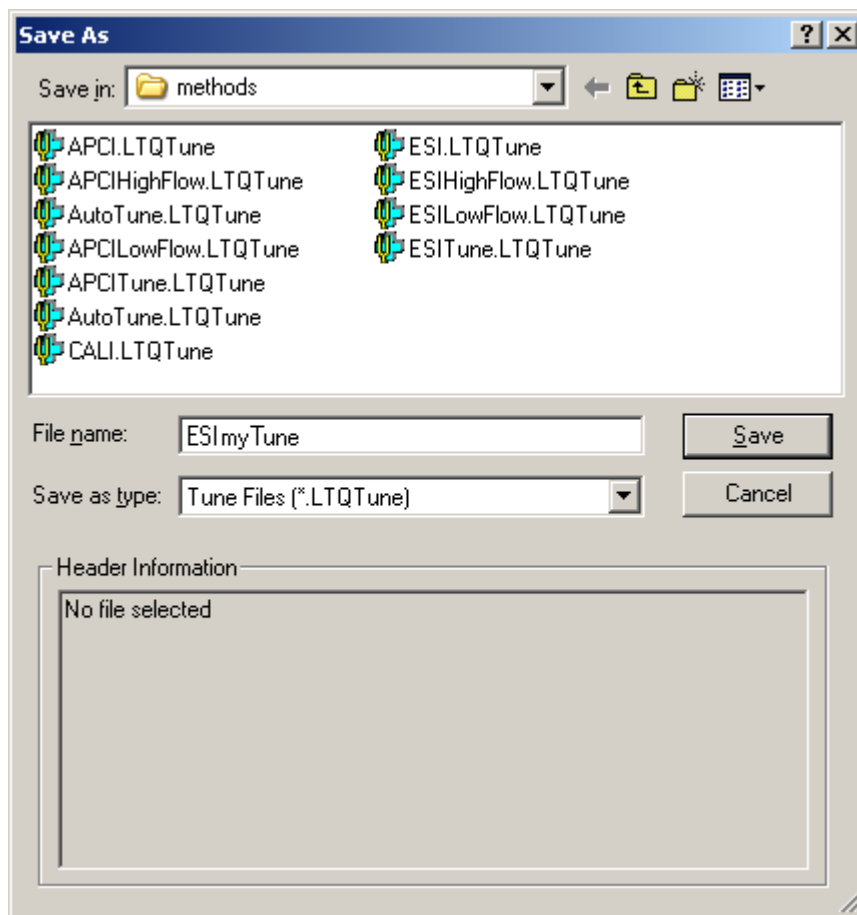

Figure 3-12. Save As dialog box, showing files in the folder *C:\Xcalibur\methods*
1. Choose **File > Save As** to display the Save As dialog box. See Figure 3-12.